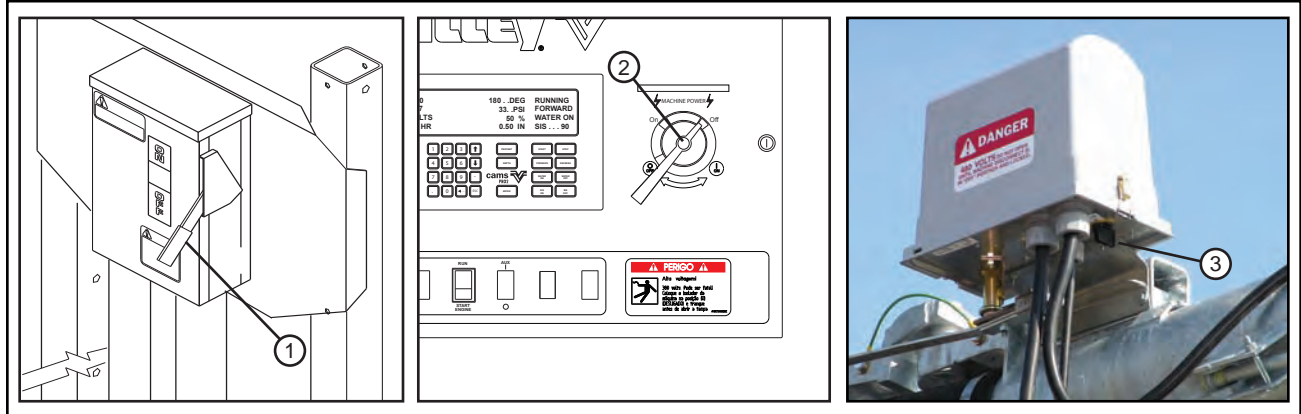

Figure 25-1 1. Main Service Disconnect Switch
- Main Service Disconnect Switch from public power to the control panel. See figure 25-1.
- Control Panel Main Disconnect Switch. See figure 25-1.
- Any Tower Box Disconnect Switch. See figure 25-1.